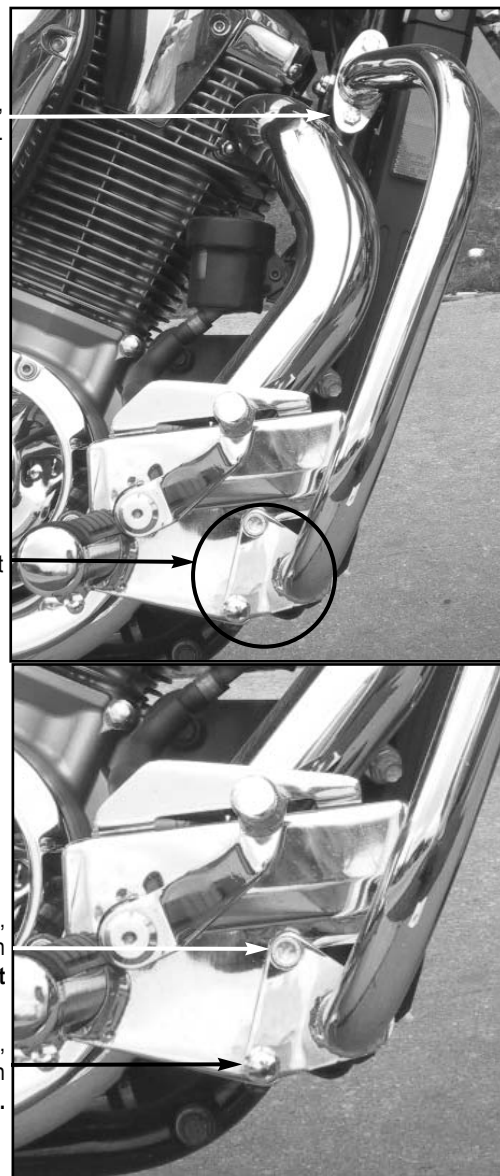

Figure 3
5. Remove the two lower frame mounting bolts on the right side of the frame down tube (14mm Socket.) The upper, short bolt will be reused, the lower bolt will not but the nut will. Refer to **figure 3** for position.
6. Install the Highway Bar to the lower frame mounting point using the stock bolt in the bottom location (14mm Socket and Wrench) and a M10-1.25 x 105 Bolt in the top location (8mm Hex Key.) Do not fully tighten at this time. **Figure 3.**